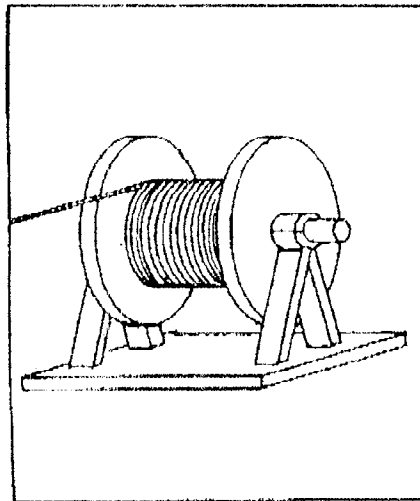

FIGURE 1
1. The reel may be mounted on a shaft supported by two jacks. (See Fig. 1.) By holding the end of the cable and walking away from the reel, the workman pulls the cable from the reel and the reel rotates properly.